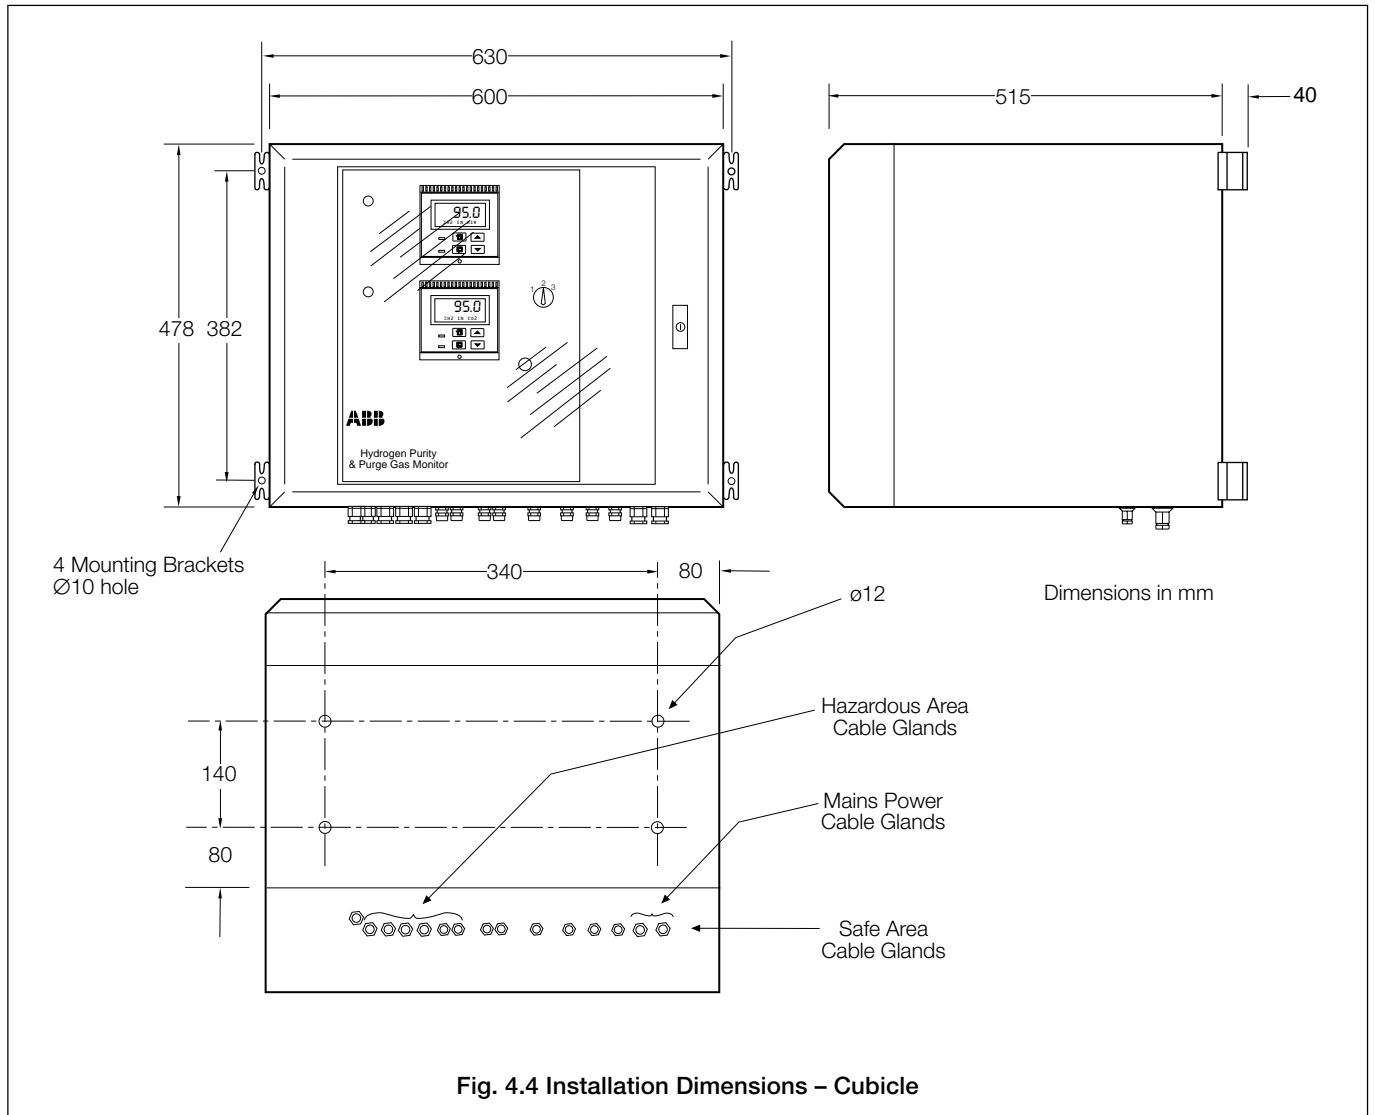

Fig. 4.4 Installation Dimensions – Cubicle
4.1.4 Cubicle Mounted System – Figs 4.4 and 4.5
Overall dimensions of the cubicle are given in Fig. 4.4 and the principal base case components are shown in Fig. 4.5.